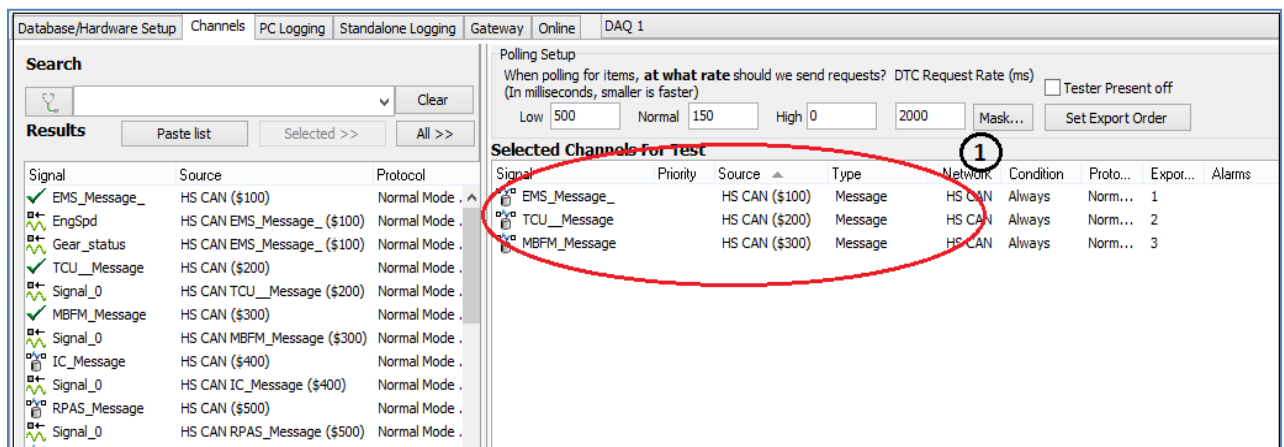
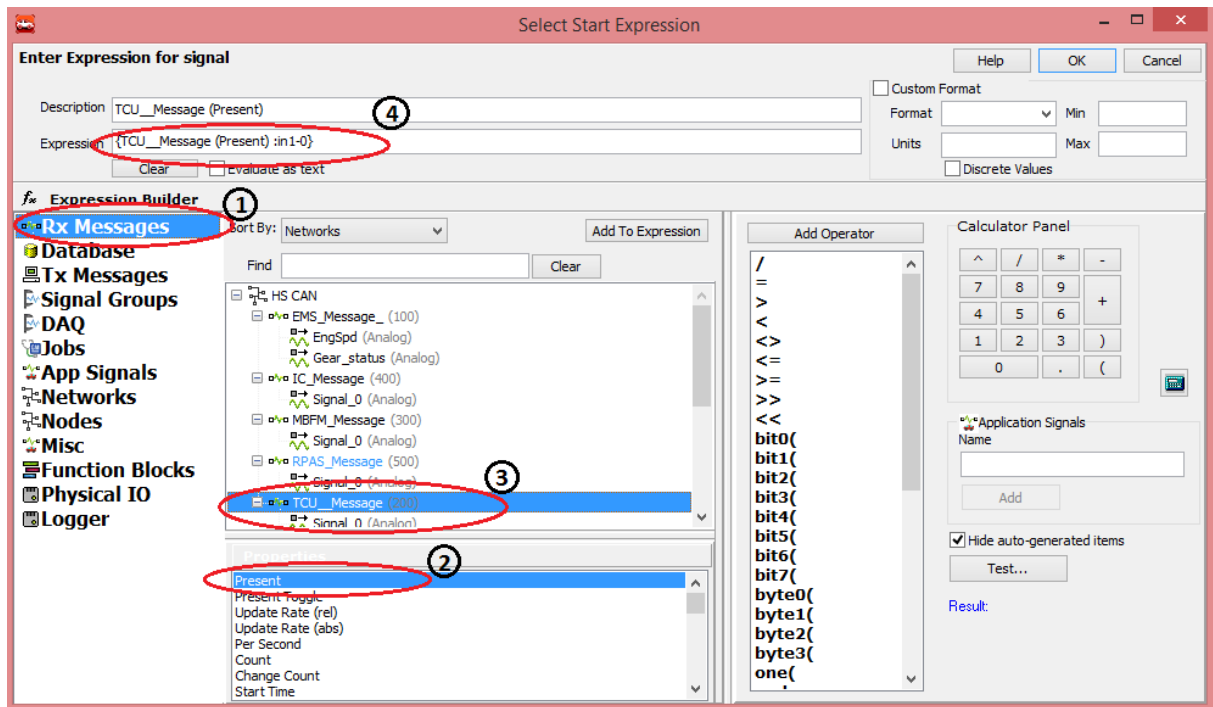

Figure 5: Selected messages.
Figure 7: Expression Builder to give an expression for start on expression
- It will display selected messages on 'Selected channels for test' block (Figure 5(1)).
- Click on 'Rx Messages' (Figure 7 (1)) and select 'Present' property (Figure 7 (2)) from property list then double click on 'TCU_message'(Figure 7 (3)). It will come in Expression block on top of window (Figure 5. (4)).